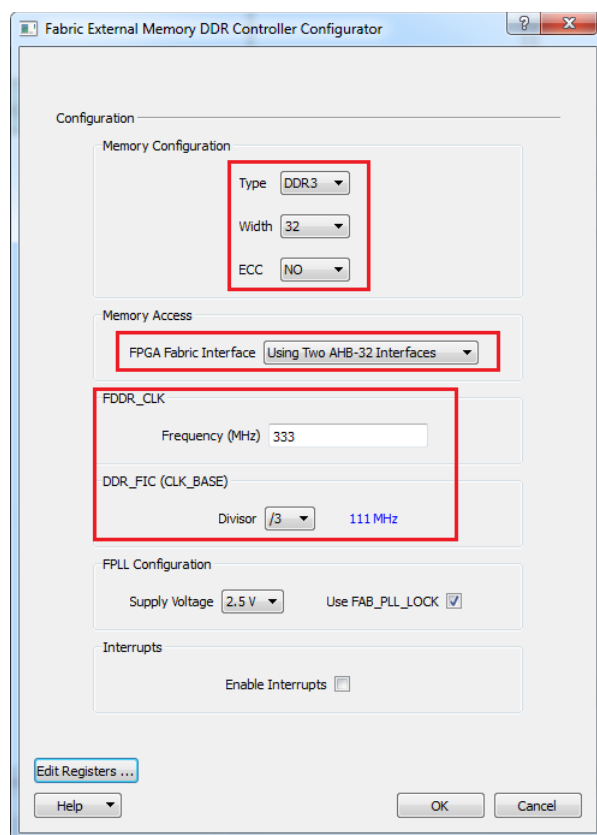

Figure 2-20 • FDDR Configuration
6. Configure the FDDR and select the dual AHB interface, as shown in Figure 2-20. In this example, the design is created to access DDR3 memory with a 32-bit data width. The FDDR clock is configured to 333 MHz and DDR_FIC is configured to 111 MHz.